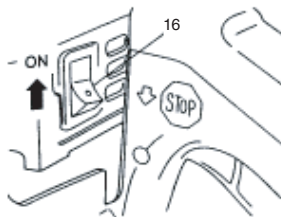

Fig. 11
1. Set ignition switch (16) to ON position. (Fig. 11)